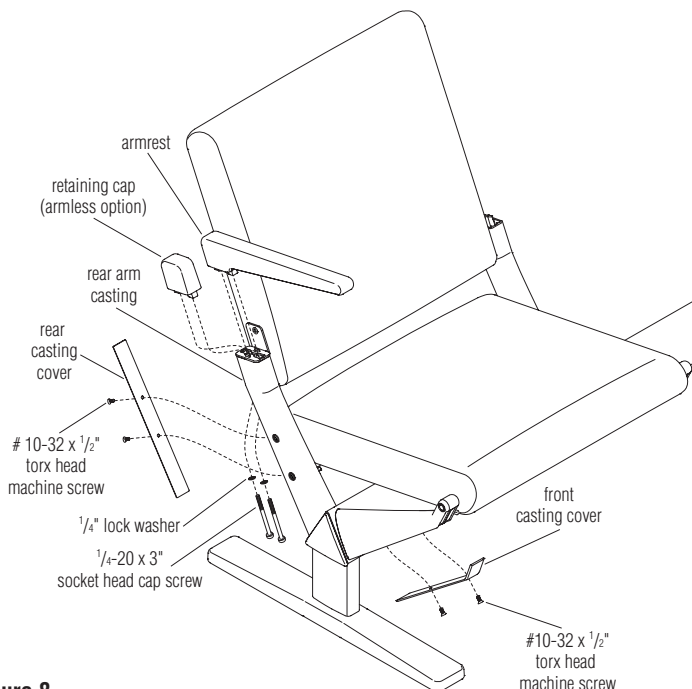

Figure 8
2. Insert the hourglass shaped key of the armrest/retaining cap into the keyway at the top of the rear arm. While holding the armrest/retaining cap, route a pair of 1/4-20 x 3 inch socket head cap screws, with 1/4 inch lock washers, up through the rear arm casting and thread into the appropriate armrest/retaining cap as illustrated. Torque to 72 in. lbs. to secure (Figure 8).
1. Attach casting covers to front and rear arms using two #10-32 x 1/2 inch torx head machine screws. On the front casting cover, attach the front screw first, (screw closest to the bend) then attach the rear screw (Figure 8).